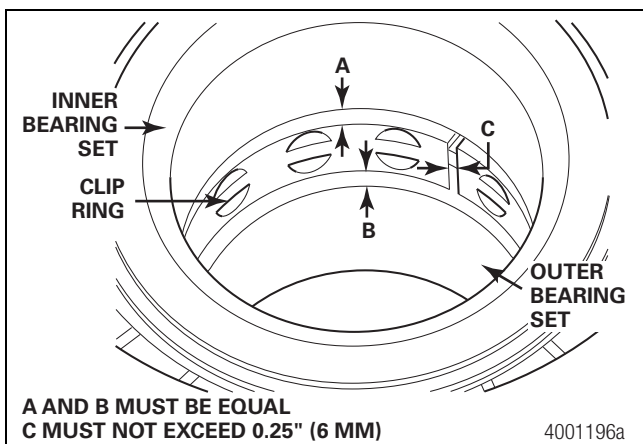

Figure 13.14
- A. The inner clip ring has not become dislodged in shipment and is in correct alignment with the inner and outer bearings. The gap between the inner and outer bearing sets and the clip ring must be equal. Figure 13.14.
- B. The gap between the ends of the clip ring must be equal and not exceed 0.25-inch (6 mm). If necessary, adjust by hand. Figure 13.14.